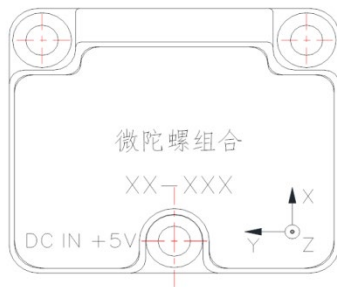

Figure 2-1 Space Coordinate System of Micro Gyroscope Combination
Diskette	<p>i) Scale factor nonlinearity: <math>\leq 100\text{ppm}</math></p> <p>j) Repeatability of scale factor: <math>\leq 100\text{ppm}</math></p> <p>k) Cross coupling: <math>\leq 0.1\%</math></p> <p>l) Bandwidth: <math>\leq 250\text{Hz}</math></p> <p>m) Weight: <math>(52 \pm 5)\text{ G}</math></p> <p>1.2.2 Power supply requirements</p> <p>a) Supply voltage: <math>(+ 5 \pm 0.5)\text{ V (DC)}</math>;</p> <p>b) Power supply current: working current <math>&lt; 0.3\text{A}</math>;</p> <p>1.2.3 Environmental adaptability</p> <p>a) Working temperature: <math>(-45 \sim 85)\text{ }^\circ\text{C}</math></p> <p>b) Storage temperature: <math>(-55 \sim 105)\text{ }^\circ\text{C}</math></p> <p>c) Vibration: <math>10 \sim 2000\text{Hz}</math>, <math>6.06\text{g}</math></p> <p>d) Impact: <math>5000\text{ G}</math>, <math>0.1\text{ms}</math></p> <p>2 Space coordinate system</p> <p>2.1 Right Hand Rule Principle 1</p> <p>The three-degree-of-freedom gyroscope contained in the micro-gyroscope assembly represents the spatial coordinate system of three axes, namely X, Y and Z. The X axis points to the direction of the electrical connection interface, the Y axis points to the left side of the micro-gyroscope assembly, and the Z axis refers to the top surface of the micro-gyro assembly, as shown in Figure 2-1.</p>